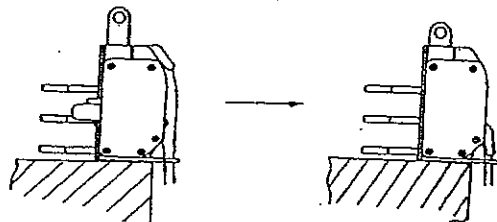

figure 1.
3. Put the clamp in a state of release as in the following figure. (Here, if the clamp is in a state described in Figure 1, place the clamp on the steady table, and draw down the yellow rope while the white rope is being pulled.)